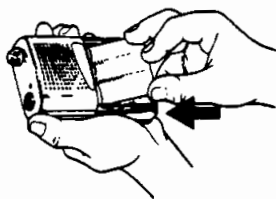

Figure 1c.
2. With the battery label facing up, align the battery and the radio contacts. Apply slight pressure to the bottom end of the battery and press the battery pack down into the compartment as shown in Figure 1c.